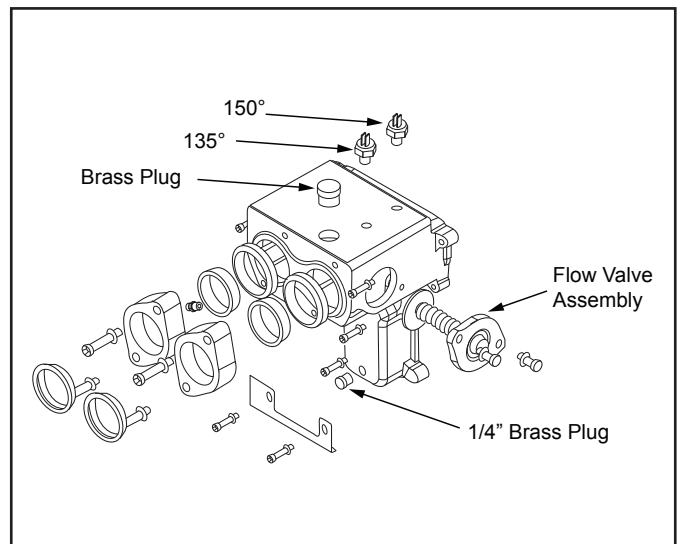

Figure 2. Inlet/Outlet Header
7. Remove the the two hi-limit switches from the inlet/outlet header. These switches are identified by part number and temperature rating (see Fig 2.).
10. Remove the two bolts that hold the flow valve assembly to the inlet/outlet header. Pull assembly straight out of the header (see Fig. 2).
12. Remove the bolt that attaches the heat exchanger support bracket to the heater support frame and remove the bracket (see Fig 2).
9. Install the new hi-limit switches into the inlet/outlet header. These two components are identified by markings on the switch. It is important to install them in their correct place. Refer to Figure 2 for correct placement.